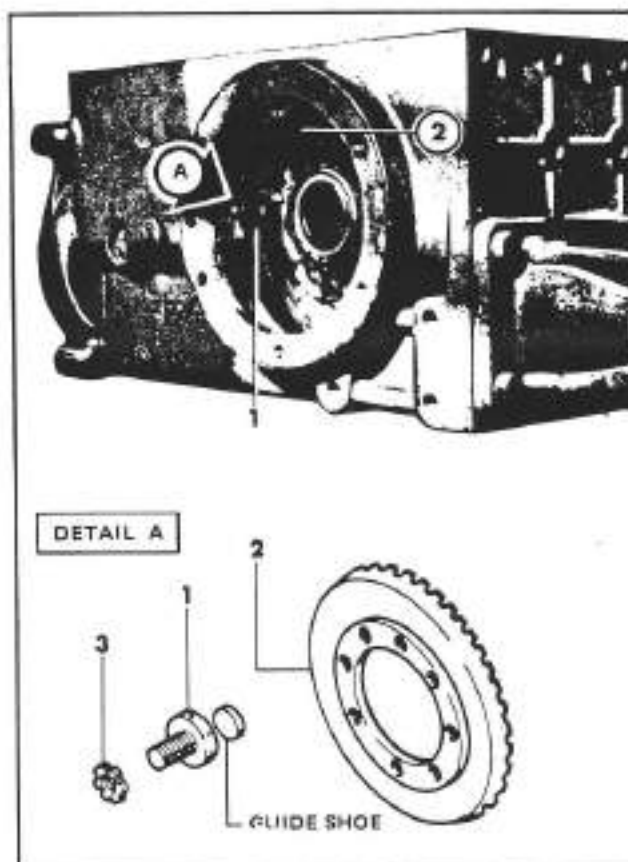

Fig. 3-50. Adjustment of the play of the differential bevel ring gear
- After remounting the rear differential, ascertain that there is a play of approximately 0,1 mm (0.04 in) between the pawl (1; fig. 3-50) and the differential ring gear (2; fig. 3-50). In the event that adjustment is necessary, loosen the lock nut (3; fig. 3-50) and move the pawl as required.